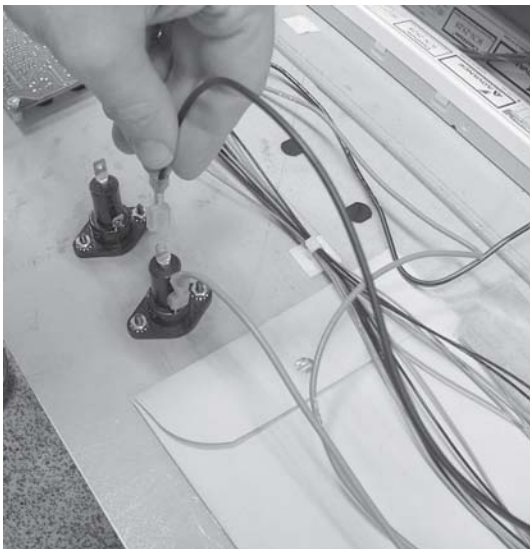

Figure 2
2. Label wires and pull wires from the terminals of the faulty fuse holder. Figure 2.